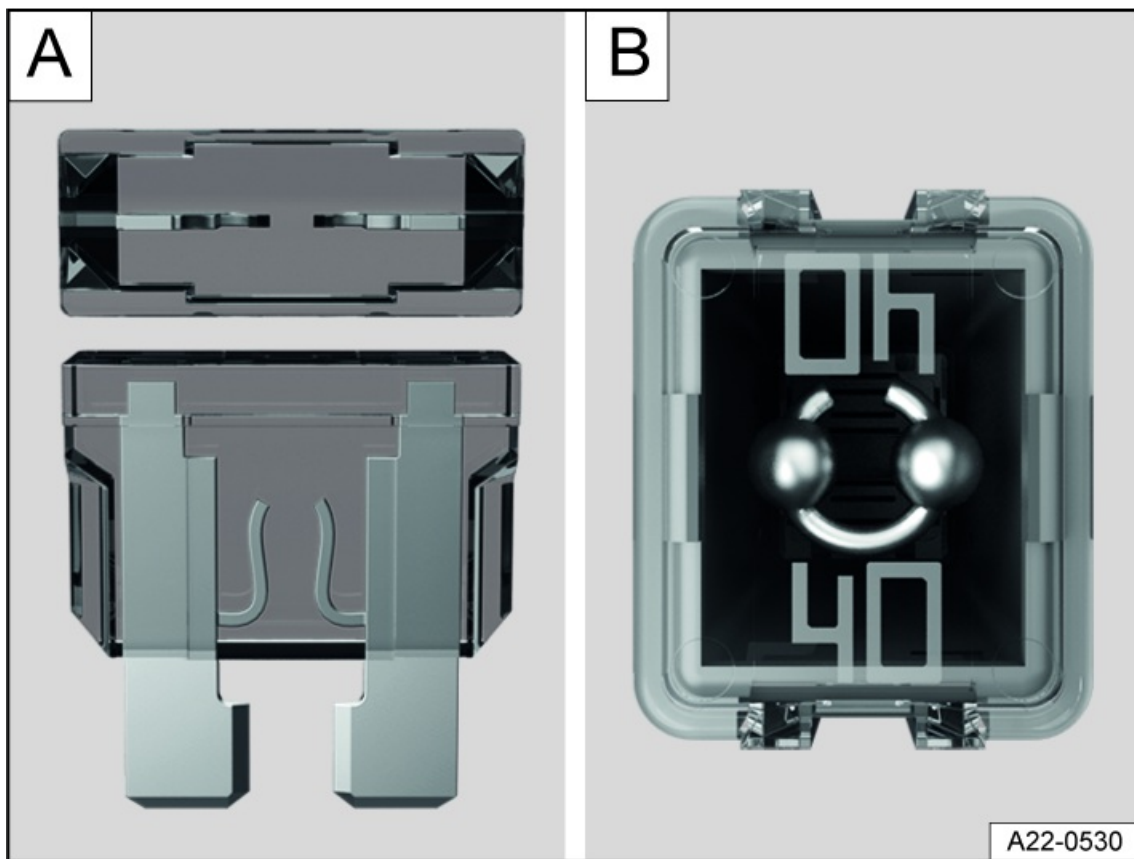

Fig. 156 Blown fuse (general example).
- A blown flat connector fuse (ATO[®], MINI[®]) has metal strips that have burned through, which you can see through the transparent housing from above and from the side fig. 156 A.
- A blown block fuse (JCASE[®]) is recognizable by the melted metal strip seen through the transparent housing from above fig. 156 B.